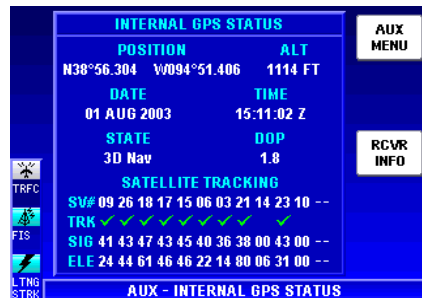

Figure 1-12
4. Press the **SELECT** Softkey to display Figure 1-12.